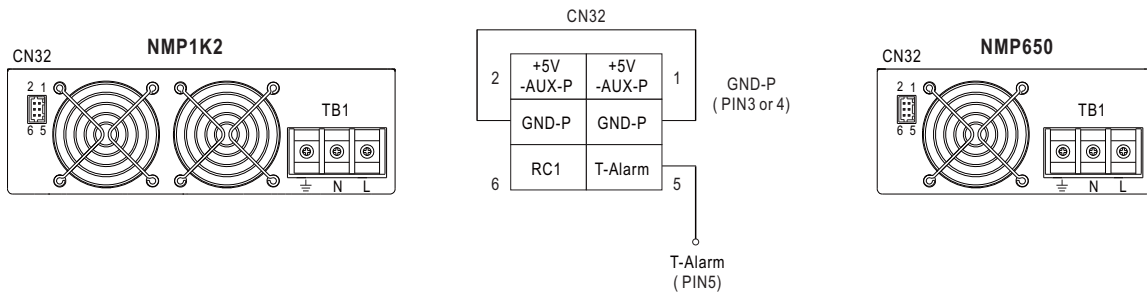

Figure 5-3
- Figure 5-3 shows T-Alarm (CN32 PIN5) and GND-PC (CN32 PIN3 or 4) connection diagram.